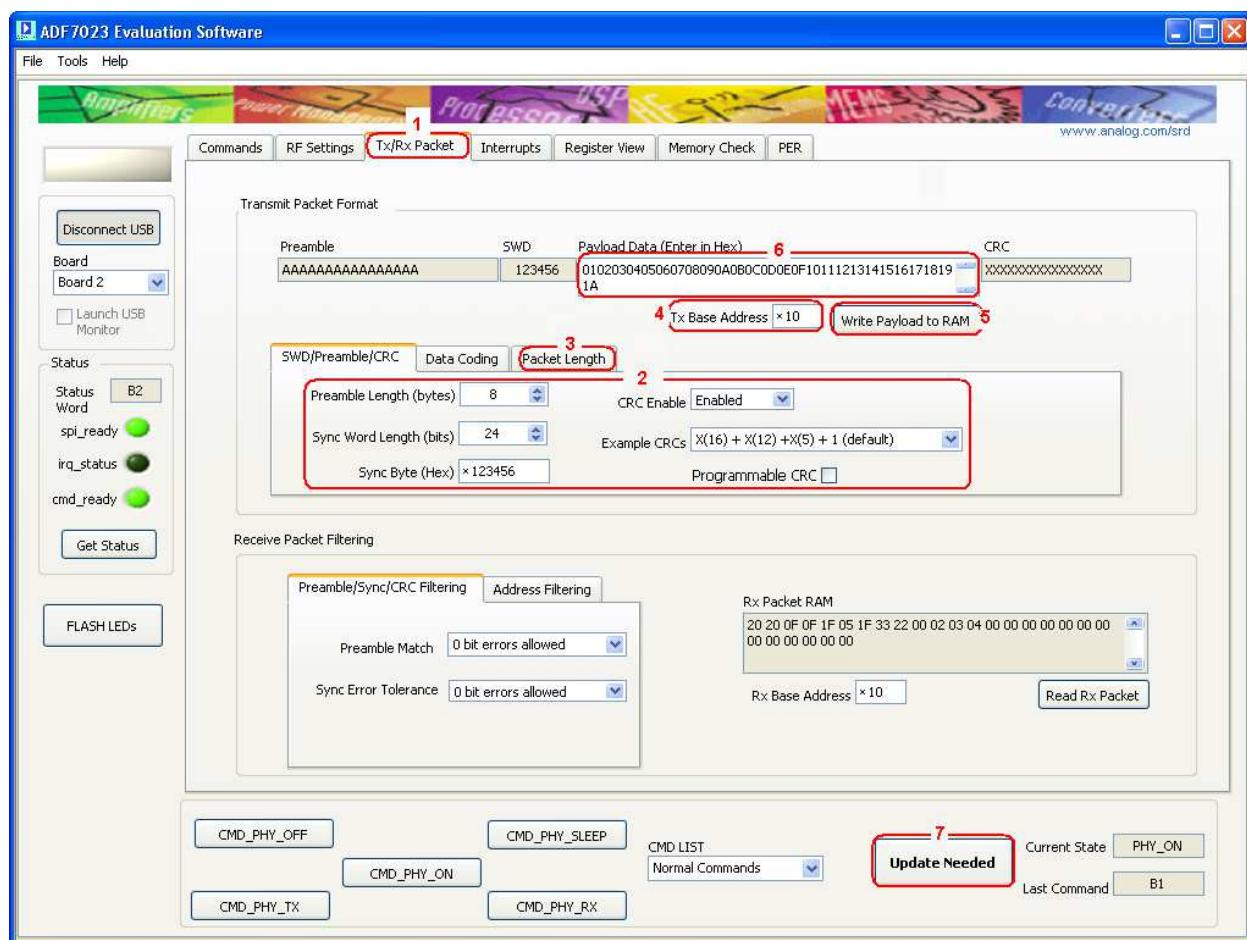

Figure 35
Using the Tx/Rx packet tab you can set up the packet format and configure the packet handler. Ensure these settings are the same as the Receiver settings previously set. (Figure 35 point (1))
1. The transmitted preamble length sync word and CRC can be defined by the user. (Figure 35 point (2))
2. Ensure you are using a fixed packet length and that, “Packet Length Max” is set equal the payload length. (Figure 35 point (3))
3. Set up the Tx base address. (Figure 35 point (4))
4. Insert Hex data in the Payload Data field (Figure 35 point (5))
then click “Write Payload to RAM” (Figure 35 point (6))
5. Write the settings to the device using the “Update Needed” button. (Figure 35 point (7))